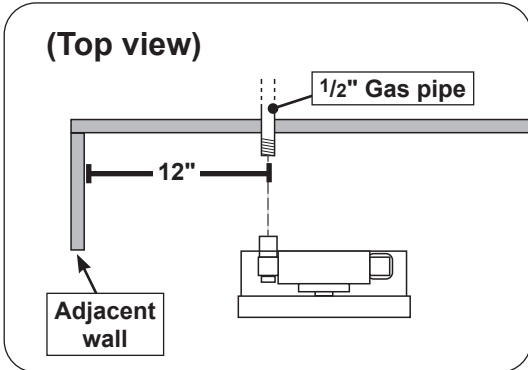

Fig. 1-3 Adjacent wall diagram
**Important:** The center of the pipe must be at least 12" (see Fig. 1-3) from any adjacent walls to allow the fully assembled valve and box to rotate completely during install, if applicable. (Removing the valve assembly from the box will allow a 9" minimum from any adjacent walls.)